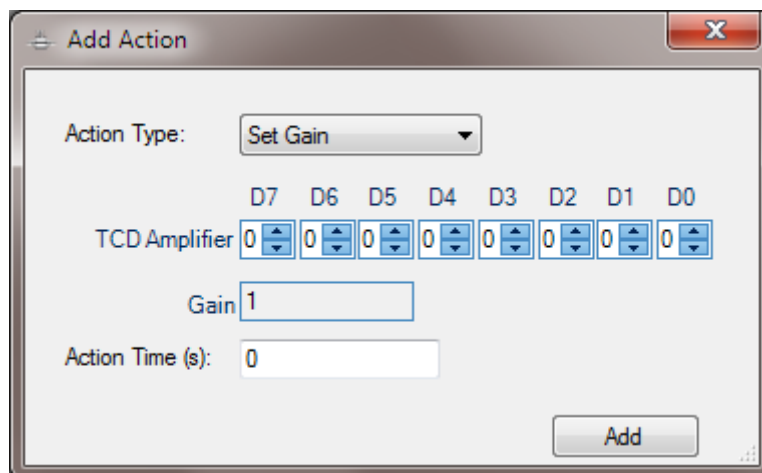

Figure 5-12: Set Gain action dialog box accessible from Action List toolbar
- If the Set Gain action is selected, the Add Action dialog box shown in Figure 5-12 is presented.
The *Stream Sequencer* screen (Figure 5-12) is used to indicate the order of runs within a sequence.